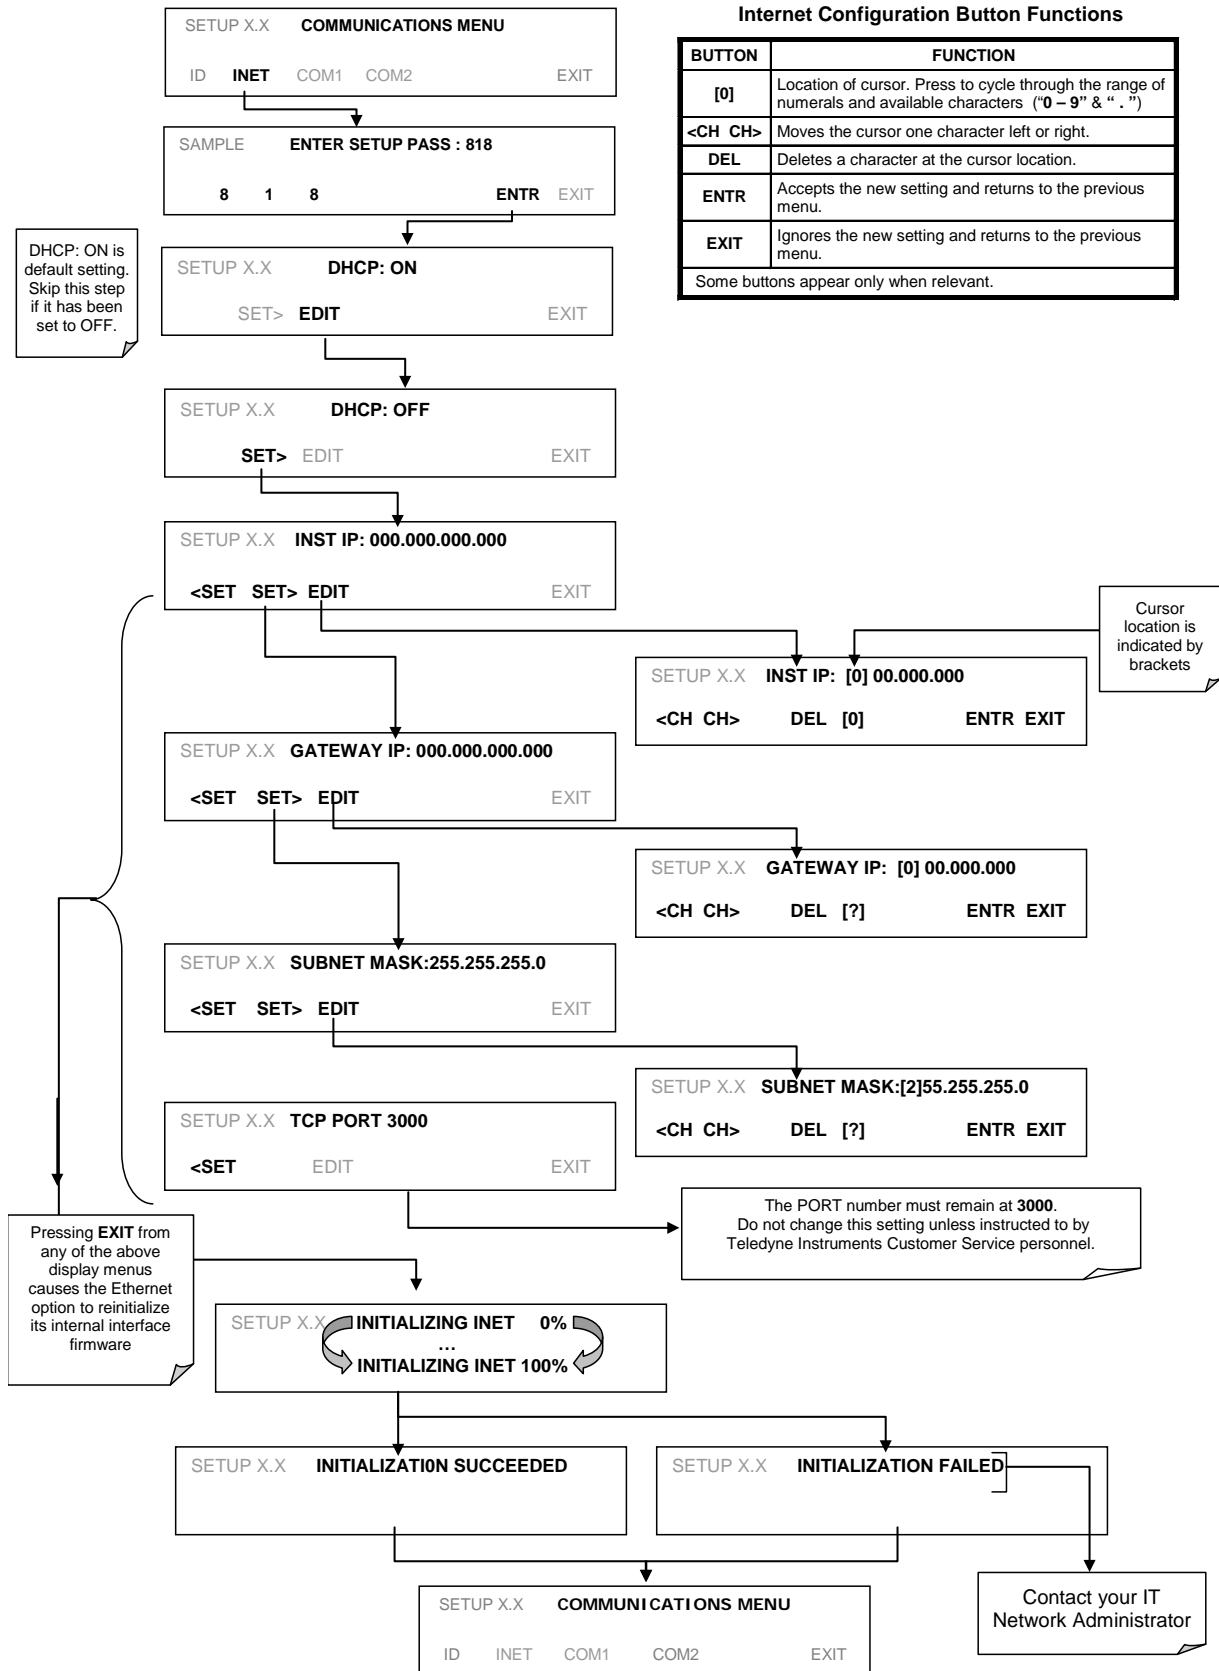

Figure 7-1: COMM - LAN /Internet Manual Configuration
3. Enter the INET menu shown in Figure 7-1, turning DHCP mode to OFF and editing the Instrument and Gateway IP addresses and Subnet Mask to the desired settings (default settings shown in Table 7-3).